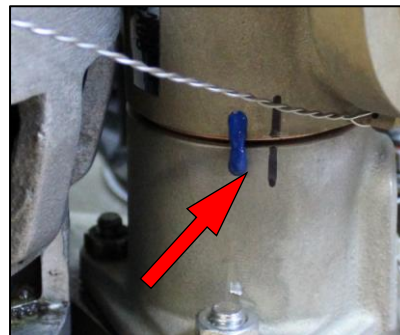

Figure 12
13. Apply Tamper Seal across the joint of the sleeve and oil pump housing as shown in Figure 12.